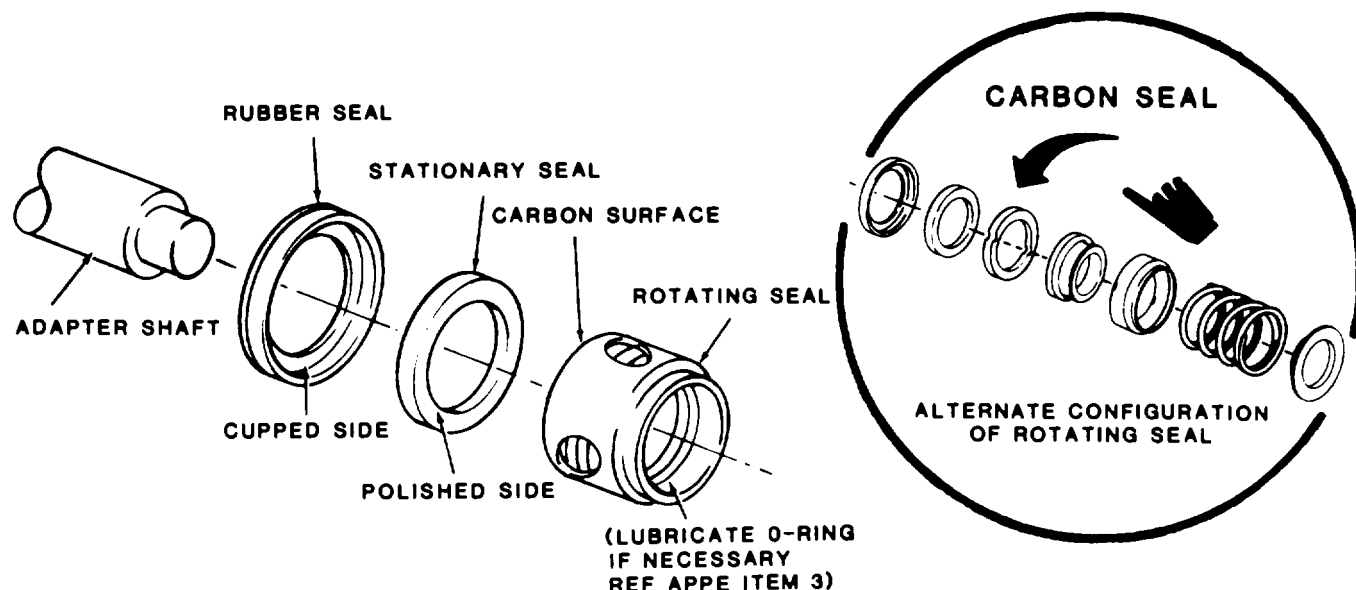

Figure 5-2. Adapter Shaft Seal Assembly.
- (3) Install key (17) and attach pump (19) to engine/motor with four screws (14) and new compression inserts (15). Torque evenly to 32 ft. lbs. (36.90 cm–kg). Lubricate rubber seal (item g, App E).
- (4) Install adapter shaft (16) onto armature/crank shaft. Seat stationary seal into Rubber Seal and slide onto adapter shaft and pump cavity. Install Rotating Seal over adapter shaft (see figure 5-2).
When the Seal, Assembly, Shaft is ordered, an alternate configuration of the Rotating Seal may be received. The uncaged spring and carbon seal is fit and functionally the same as the caged Rotating Seal, and is installed in the same way. An illustration of the Alternate Rotating Seal is included in Figure 5-2.